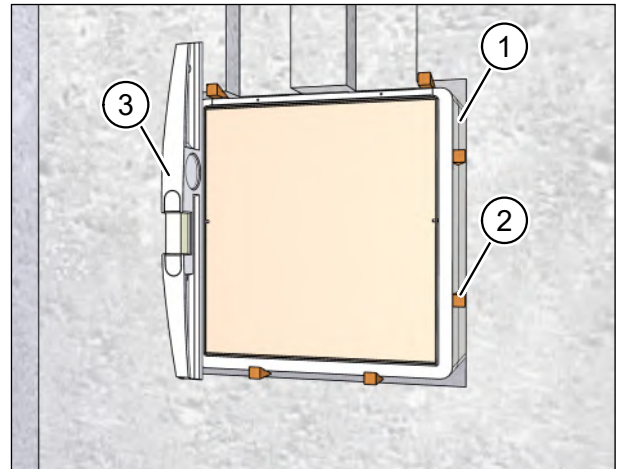

Fig. 23: Fixing the wall box
- ▶ Fix the wall box (item 1 in Fig. 23) in position in the wall breakthrough using wedges or air cushions (item 2 in Fig. 23) on both the inside and the outside.
- ▶ Use the spirit level (item 3 in Fig. 23) to align the wall box so that it is perpendicular and flush with the wall.